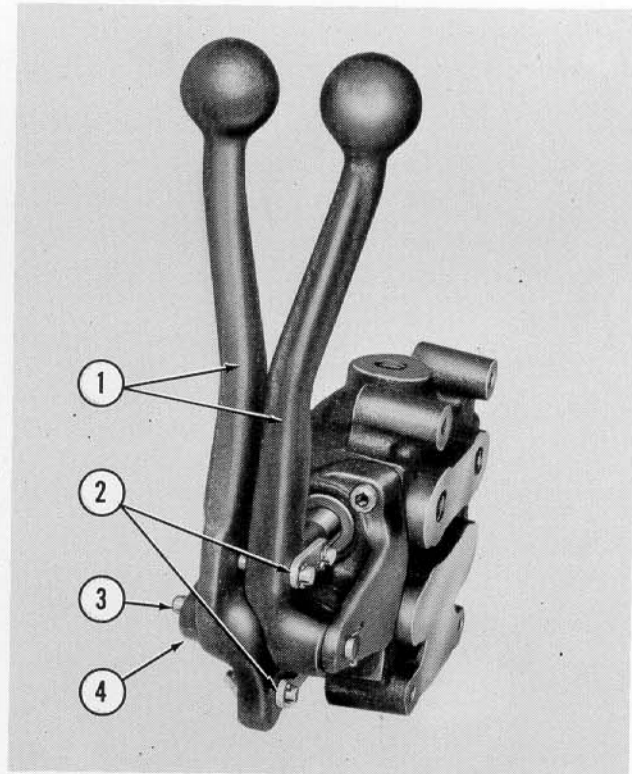

Figure 13
16. Remove the masking material and paint from the exposed ends of the valve spools. Attach the control levers (1), Figure 13, to the valve spools with the linkage (2). Make sure that the levers are positioned as shown in Figure 13. Insert the pivot pin (3) through the control mounting bracket (4) and the control levers. Secure with the cotter pins provided.